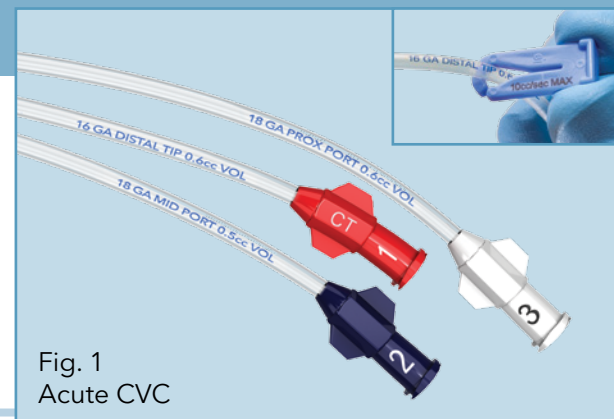
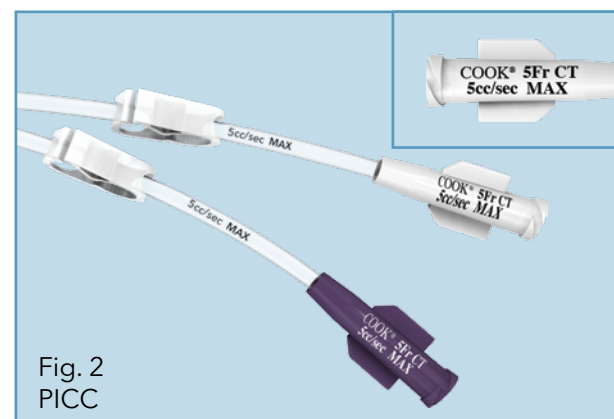

Fig. 1
Fig. 2
- 1 Confirm catheter is power injectable by locating the CT symbol and the maximum contrast injection flow rate on the clamp or hub. **Please note: Not all lumens are power injectable. Look for the appropriate label to determine which lumen is cleared for injection.** (Fig. 1, CVC; Fig. 2, PICC)